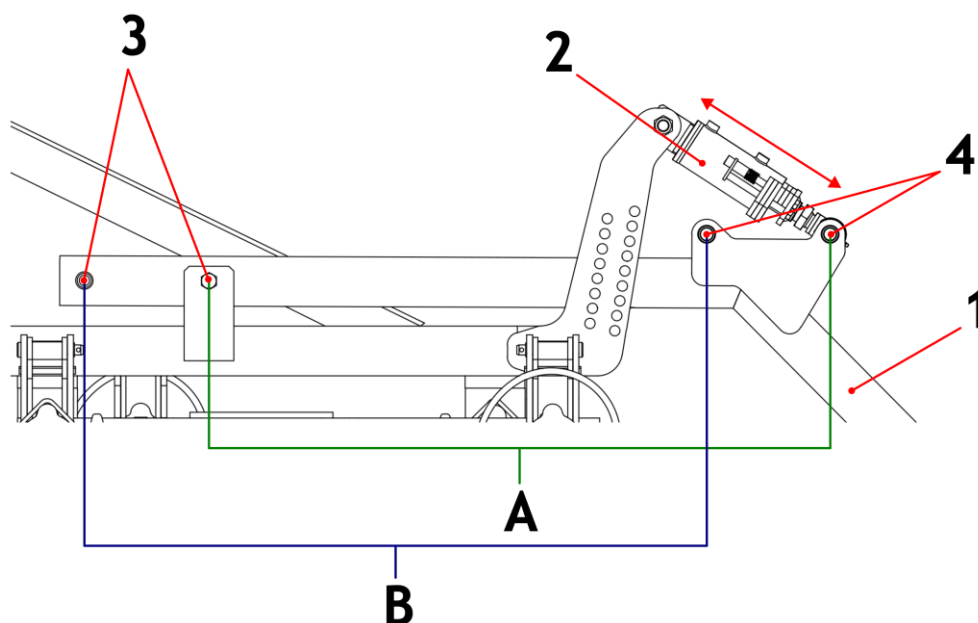

Figure 32 Hydraulic work depth of the disc harrow (1 - roller arm, 2 - actuator with pawls, 3 - arm mounting holes, 4 - actuator mounting holes)
The working depth is determined by the position of the roller, whose arms are adjustable by actuators (fig. 32 item 2). To maintain a constant roller position (working depth) during operation, clamps are fitted to the actuator piston rods. Initially, the working roller should be set above the lower edge of the discs at a height that roughly corresponds to the anticipated working depth, and the setting should be adjusted during the work once the roller's settlement has been taken into account.
The roller arm has two operating settings: the roller is closest to the rear disc beam (Fig. 32, item A) and the roller is farther from the rear disc beam (Fig. 32, item B). The setting should be adjusted to the conditions and desired working results of the disc harrow.